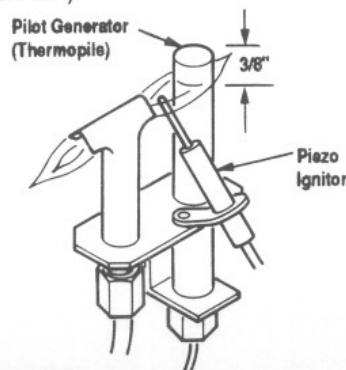

Figure 27
Approximately the top 3/8" at the pilot generator (thermopile) should be engulfed in the pilot flame (Figure 27).
Visually inspect pilot. Brush or blow away any dust or lint accumulations. If pilot orifice is plugged, disassembly may be required to remove any foreign material from orifice or tubing. When appliance is put back in service, check pilot flame patterns with *Figure 27*.
2. Adjust pilot screw to provide properly sized flame (*Figure 27*).